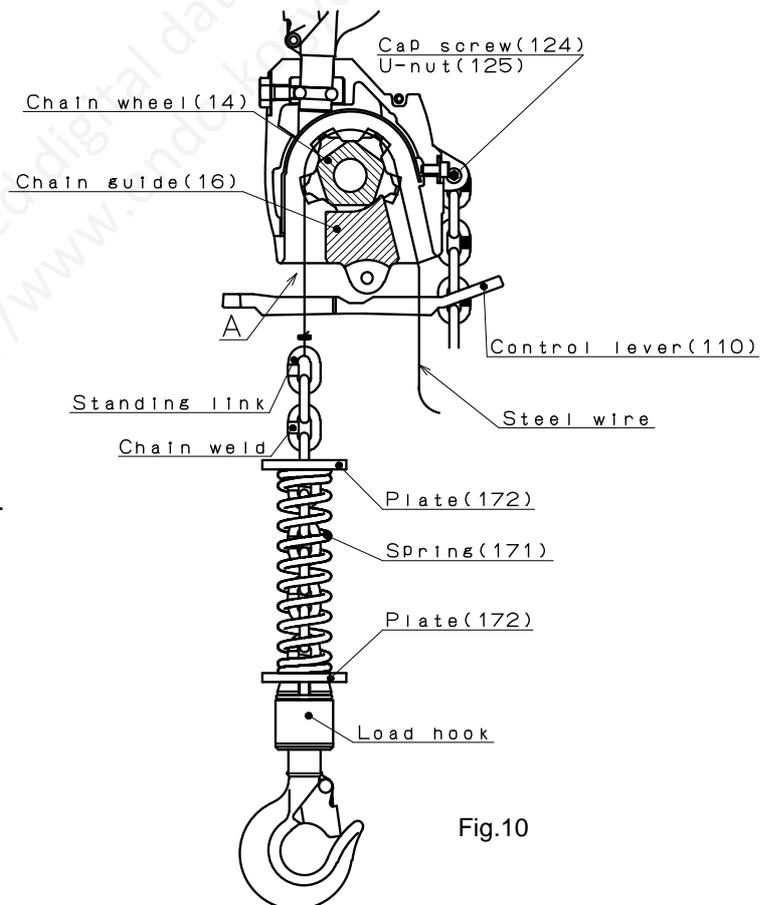

Fig.10
1. Method 1 (See Fig. 10)
1. Method 1 (See Fig. 10 & 12)